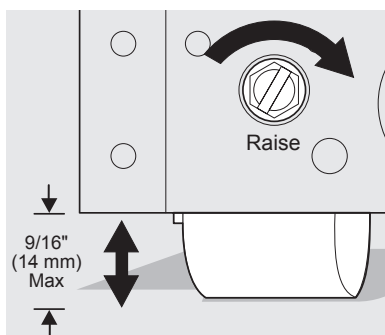

Figure 2
- 2 Use a flat-blade screwdriver or $\frac{3}{8}$ inch socket wrench to raise or lower the front rollers (Figure 2). Do not raise the cabinet more than $\frac{9}{16}$ inch.